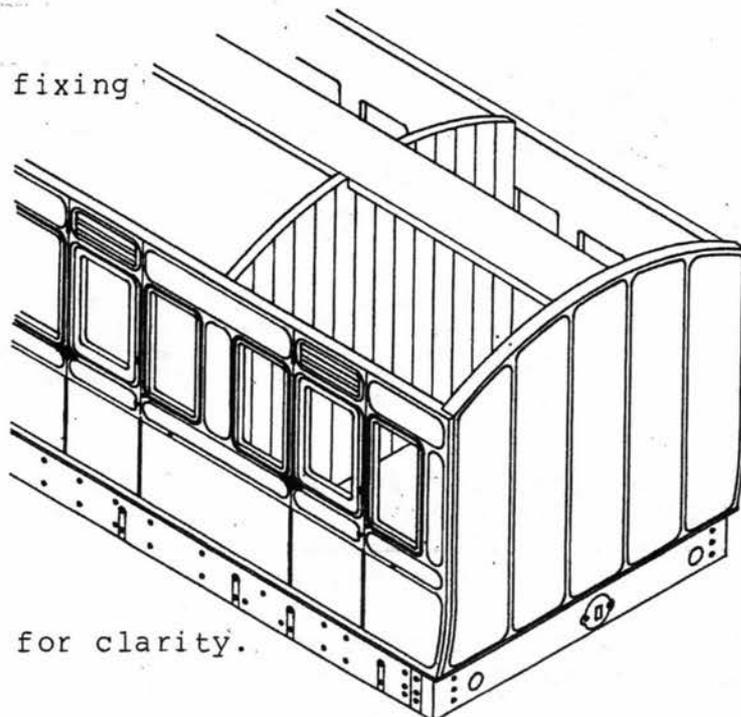

fig 11
26. Moulded seats have been included and should be assembled as shown in figure 11. Note that the seats need to be trimmed along the back edge to produce a shallower third class seat. Left untrimmed, they will produce a slightly deeper first class seat.